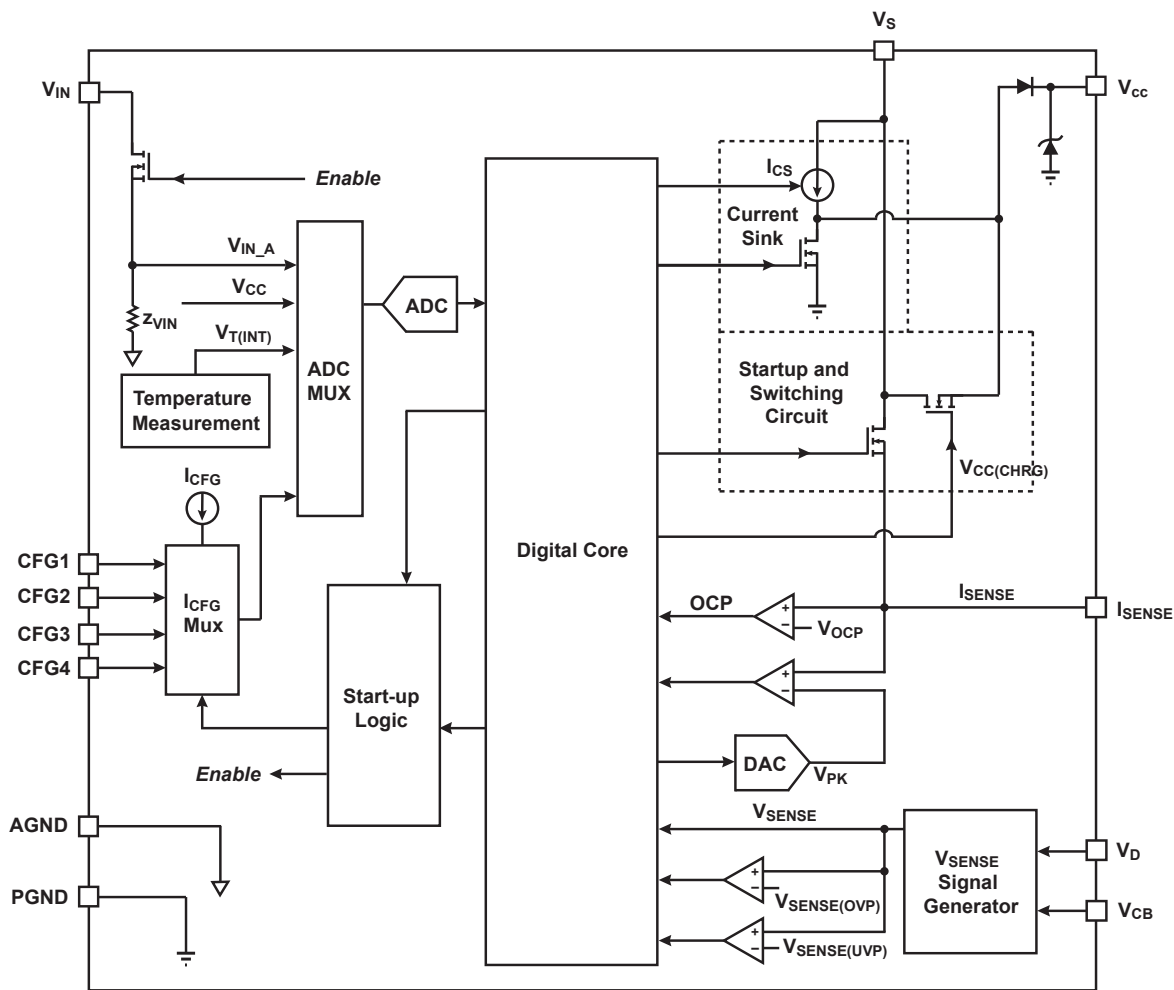
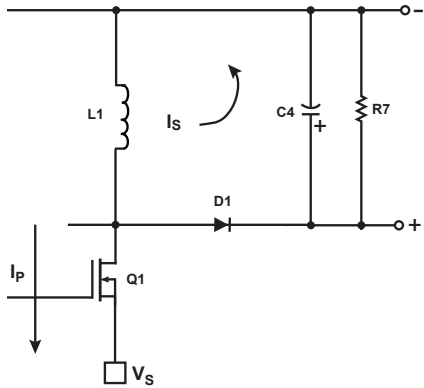

Figure 8.1 : iW3688 Functional Block Diagram
Figure 9.7 : Inductor Current Flow in Switching Mode
- Note 2. Refer to the voltage level at the V_{IN_A} point in Figure 8.1. The typical impedance between the V_{IN} pin and V_{IN_A} point is 500 Ω .
- Note 3. Refer to Z_{VIN} in Figure 8.1.
The Digital Core (shown in figure 8.1) analyzes the rectified AC waveform and determines whether a dimmer is connected on the line. There are three dimmer modes in the iW3688: no-dimmer, leading-edge dimmer, and trailing-edge dimmer. Based on the detected dimmer type and input voltage waveform, the iW3688 determines whether the iW3688 is operating in current sink mode or switching mode. During switching mode, the output current regulation is determined by inductor peak current (I_{SENSE} pin), the magnetic flux status of the inductor (V_D and V_{CB} pins), and the input voltage waveform (V_{IN} pin) (refer to section 9.4 for more information).
If a dimmer (either leading-edge or trailing-edge) is detected on the AC line, the iW3688 operates in dimmer mode. In dimmer mode, MOSFET (Q1 in Figure 11.1) operates in both switching mode and current sink mode based on the timing control of iW3688. During the switching mode, the output current is adjusted based on the detected phase conduction angle. During current sink mode, the switching circuit is disabled and the current sink circuit is enabled. The main MOSFET is forced to operate in linear mode, where the current through MOSFET is regulated by the Digital Core. As shown in Figure 8.1, V_{CC} can be charged during both current sink mode and switching mode.
In iW3688, output current regulation is implemented through peak current control in switching mode. Figure 9.7 and 9.8 show the basic principle of this peak current regulation during the switching mode. During T_{ON} , the main switch Q1 (shown in Figure 9.7) is turned on and the current, I_P , flows through the primary side of the buck-boost converter and Q1. I_P ramps up linearly and causes energy to build up in the power inductor L1 (shown in Figure 9.7). The iW3688 continuously monitors I_{SENSE} pin voltage, when it reaches V_{PK} (shown in Figure 8.1), it turns off the switching circuit. At this time, I_P reaches peak current regulation level I_{PK} (shown in Figure 9.7 and 9.8). After Q1 is turned off, the current in L1 ramps down linearly through D1 (shown in Figure 9.7), until the energy stored in the power inductor is discharged. During this period, the current through L1 flows to the secondary side of the buck-boost/flyback converter, which is called I_S .
At start-up, a current source in the iW3688 drives the configuration current I_{CFG} (100 μ A) into CFG1–CFG4 pin alternatively (shown in Figure 8.1). The iW3688 reads their pin voltages respectively to determine the configuration options.